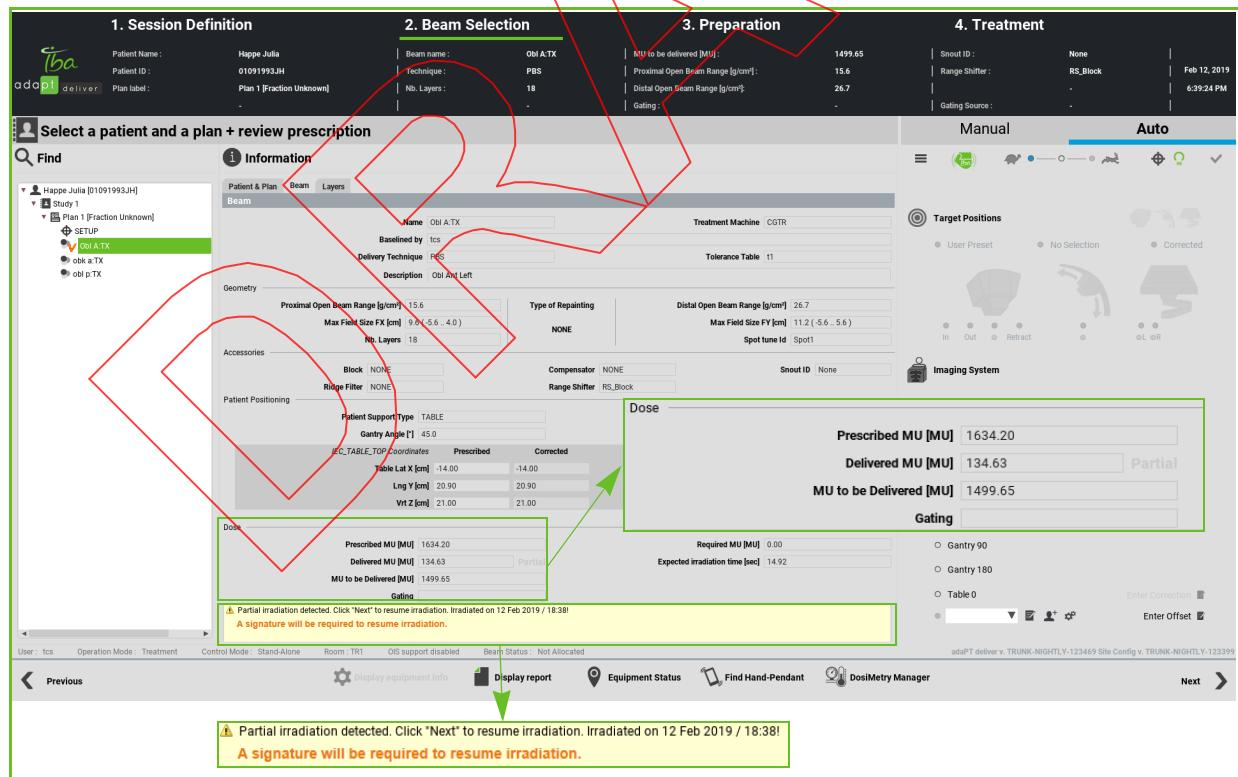

Figure 41-18. Resuming irradiation after partial treatment
2. In the **Dose panel** (Figure 41-18), the user can see that: